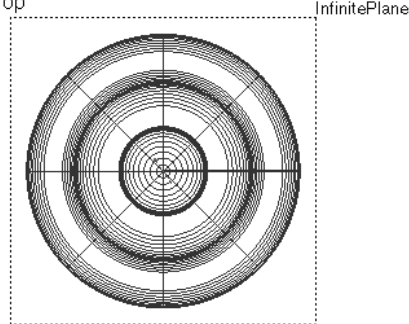

Figure 7-54 Modified construction plane
4. Drag different manipulators of the plane to change the size and position of the plane. The construction plane with the changed size and position is displayed, as shown in Figure 7-54. The elevation of the construction plane above the base feature is viewed in the **Left** window, as shown in Figure 7-55.